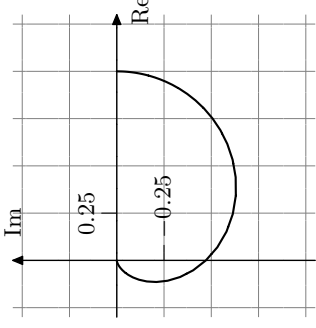
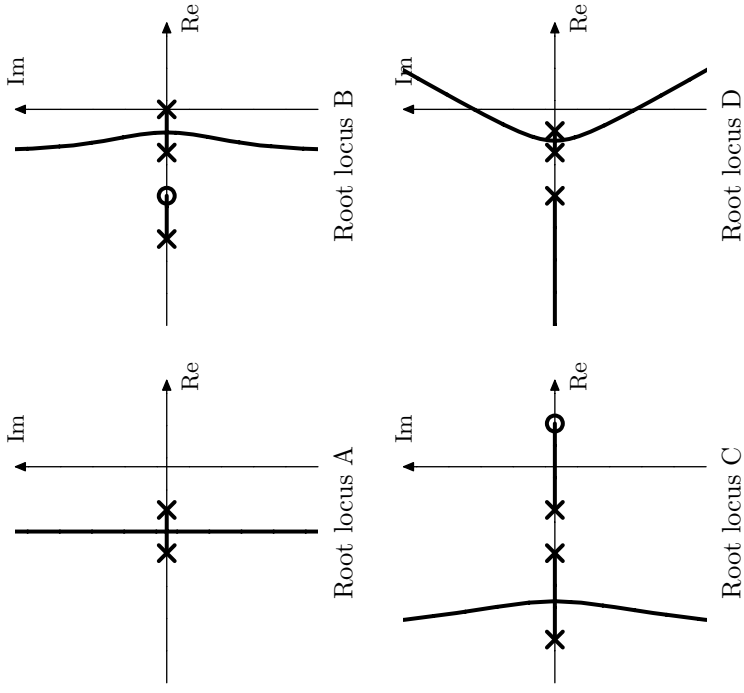

Figure 3.20a
Figure 3.20b. Starting points ( $K = 0$ ) are marked  $\times$ , and end points ( $K \rightarrow \infty$ ) are marked  $\circ$ . All diagrams have equal scaling.
3.20 The Nyquist curve for the system  $G(s) = \frac{B(s)}{A(s)}$  can be seen in Figure 3.20a. Determine which one of the root loci in Figure 3.20b that matches